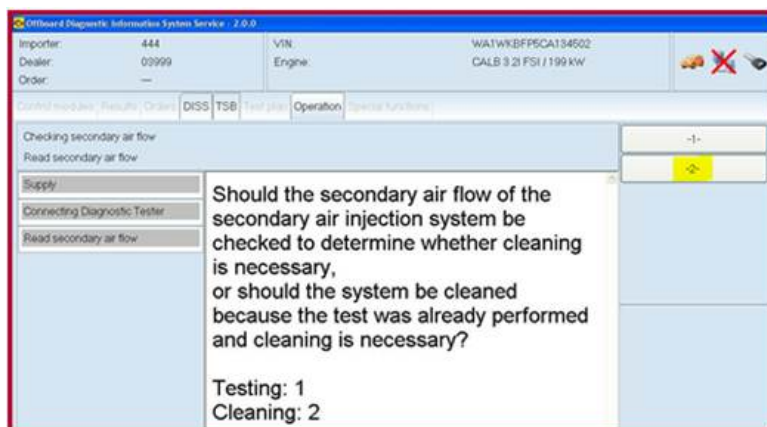

Figure 16. Select -2- for Cleaning.
- On the next screen, select -2- for Cleaning (Figure 16). Follow the instructions on the screen and click Continue to move forward.